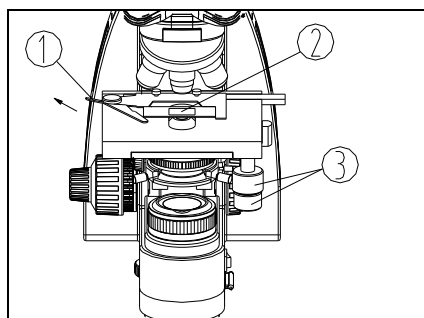

Fig. 10
1. Push the wrench (1) of the specimen holder backwards.
2. Loosen the wrench (1), and clamp the slide (2) by the clips while the cover glass faces up (see Fig. 10).
3. Rotate the X and Y-axis knob (3). Move the specimen to the center (alignment with the center of the objective).